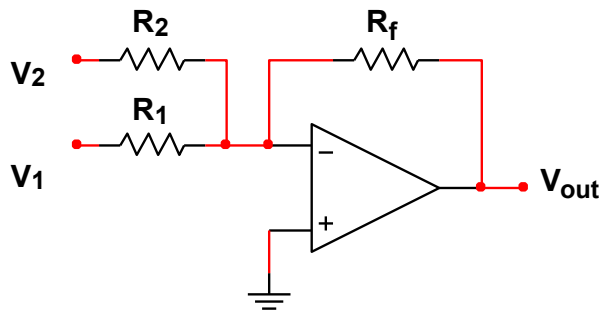

Figure P.3 – Summing Amplifier
- Using **Table 1** and **Figure P.3**, design a **DC Summing Amplifier** that has the following specifications:
- Closed Loop Voltage Gain (K) =  $K_1 = K_2 = -2$**